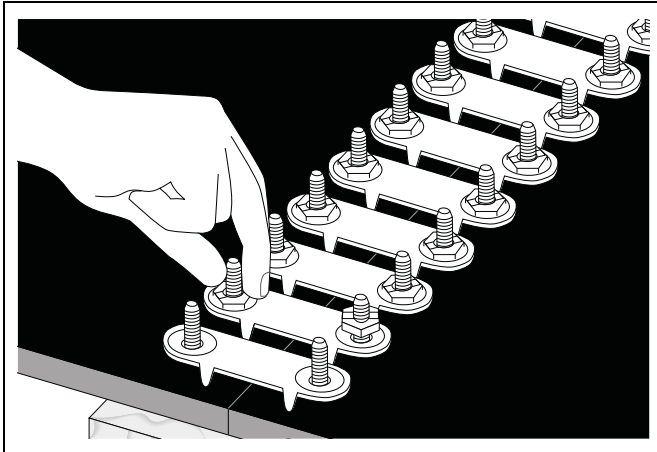

Figure 6M
7. Start nuts on bolts by hand. (See Figure 6M.)